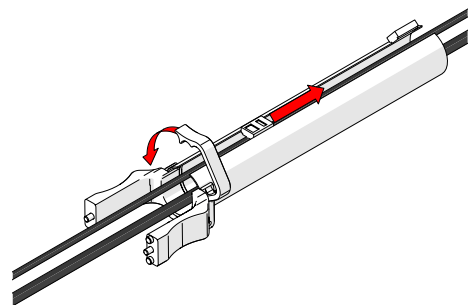

Fig. 140 - Zip to close
2. Secure clamp and follow the cable placement zipping the tube closed (Fig. 140).